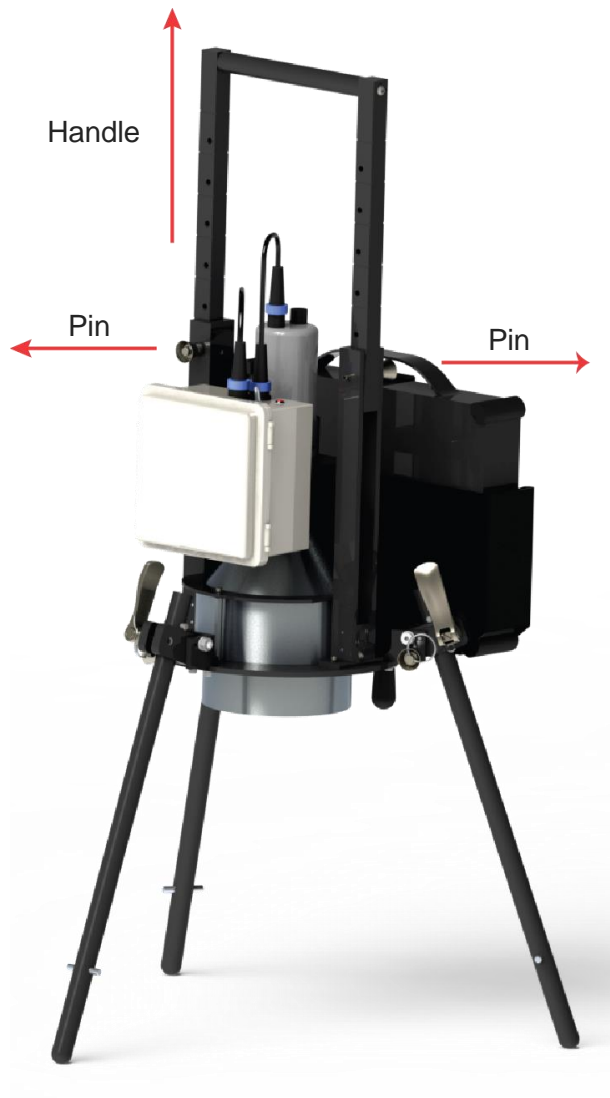

Figure 3. Extending the top handle.
2. Extend the top handle by pulling the pins (Figure 3) and lifting straight up until the desired height is reached. Use the pins to lock the handle into place.